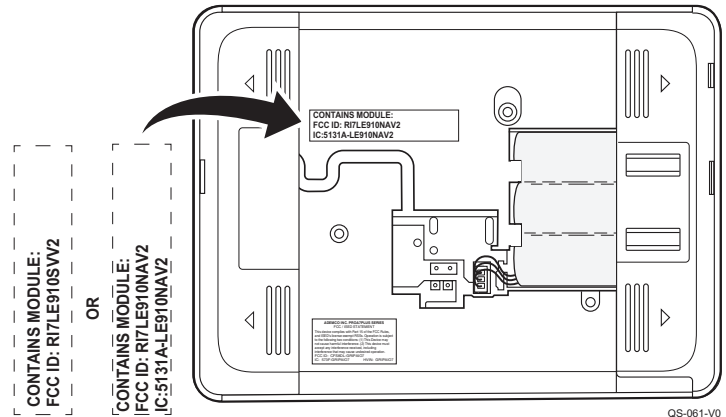

Figure 1. FCC/IC Label Location
1. Affix the provided FCC/IC label (P/N 800-25167 for the PROLTE-A, 800-25168 for the PROLTE-V OR 800-25170 for the PROLTE-CN) on the control's case back (refer to Figure 1).